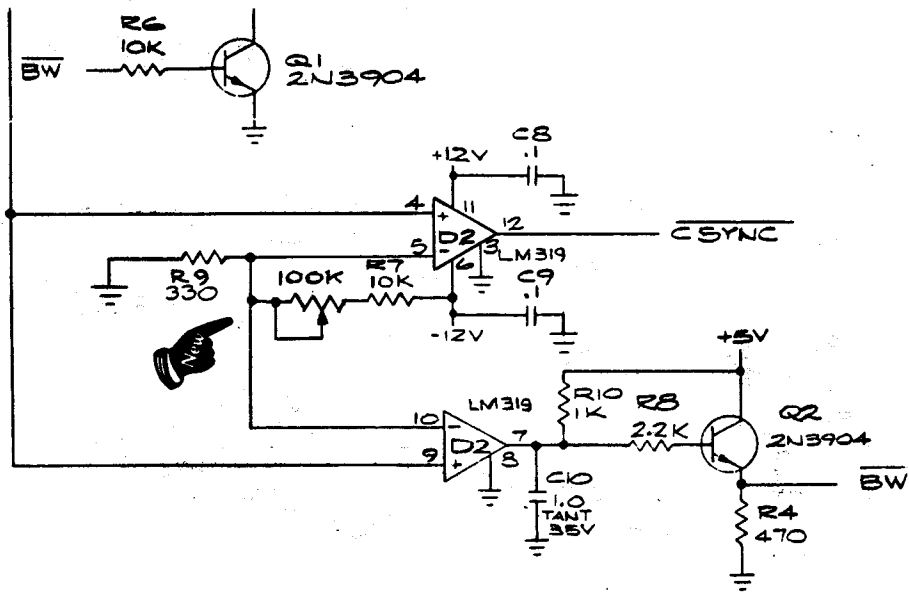

Figure 1
- Solution** On the Video Interface PCB in the PAT 9000, locate R7 (see pages 18 and 76 of TM-200). Obtain a 100k ohm potentiometer. Short the center leg of the potentiometer to either end connection. Place the potentiometer in series with R7 by lifting one end of R7 and soldering one end of potentiometer to lifted end of R7; solder the other end of potentiometer to pad which R7 was lifted from. When testing older games, adjust the potentiometer to obtain stable SYNC. (See Figure 1 on back side).